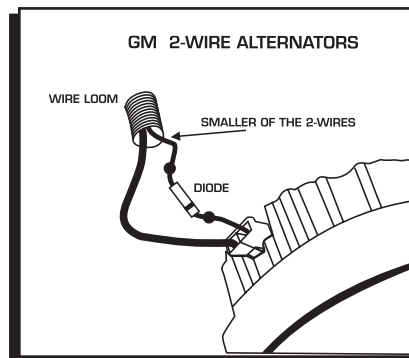

Figure 10 Installing the Diode to a 1973-1983 GM Vehicle.
**GM:** Delcotron Alternators use an internal voltage regulator. Install the Diode in-line on the smallest wire exiting the alternator (Figure 10). It is usually a Brown wire.